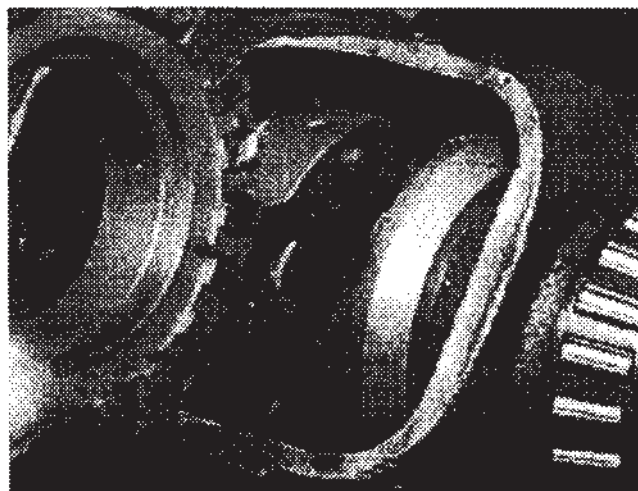

Figure 8
4. Pick up a driver-and-spacer assembly. Orient its teeth toward the ring gear flange and hold it so that the flats (if present) will clear the sides of the case. Place it on the teeth of the coupler and press it into the grease (as seen in Figure 8). Reach into the center and push the spacer down onto the coupler shoulder.
5. Repeat this step for the other driver-and-spacer assembly (**Figure 8**).